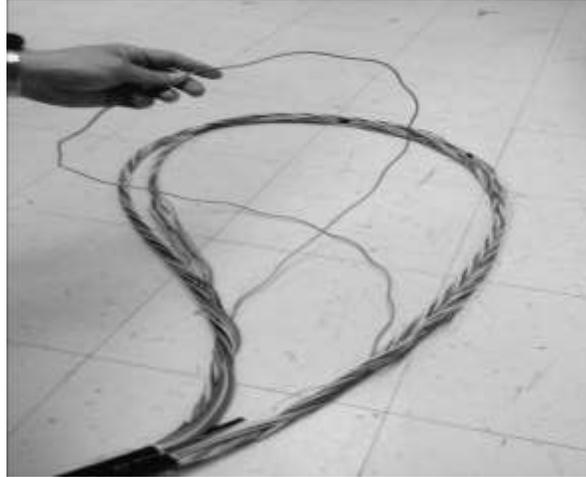

Figure 54 – Completed mid-span access of dual-layer cable.
7.6 Figure 54 shows the completed mid-span opening prior to installing the cable into the splice closure. The buffer tube intended for splicing can be routed through the storage basket and into to the splice tray. The remaining express tubes, i.e., the buffer tubes which will not be accessed for splicing, should be stored in the splice closure storage basket.